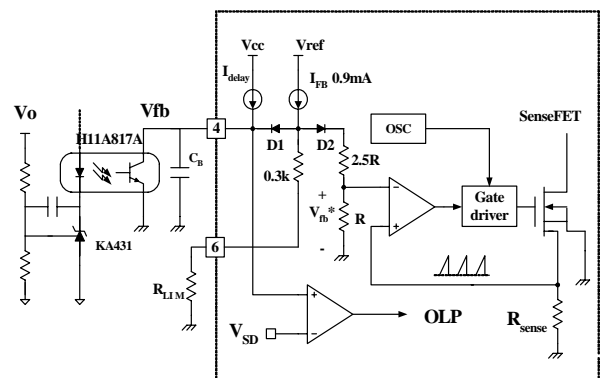

Figure 18. Pulse Width Modulation (PWM) Circuit
**2. Feedback Control:** The FSCM0565R employs current mode control, as shown in Figure 18. An opto-coupler (such as the H11A817A) and a shunt regulator (such as the KA431) are typically used to implement the feedback network. Comparing the feedback voltage with the voltage across the Rsense resistor makes it possible to control the switching duty cycle. When the reference pin voltage of the KA431 exceeds the internal reference voltage of 2.5V, the H11A817A LED current increases, thus pulling down the feedback voltage and reducing the duty cycle. This event typically happens when the input voltage is increased or the output load is decreased.
**2.1 Pulse-by-pulse Current Limit:** Because current mode control is employed, the peak current through the SenseFET is determined by the inverting input of the PWM comparator (Vfb\*) as shown in Figure 18. When the current through the opto transistor is zero and the current limit pin (#5) is left floating, the feedback current source (IFB) of 0.9mA flows only through the internal resistor (R+2.5R=2.8k). In this case, the cathode voltage of diode D2 and the peak drain current have maximum values of 2.5V and 2.5A, respectively. The pulse-by-pulse current limit can be adjusted using a resistor to GND on the current limit pin (#5). The current limit level using an external resistor (RLIM) is given by